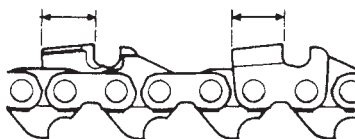

Fig. 41
- 5) Keep all cutters the same length. (Fig. 41)